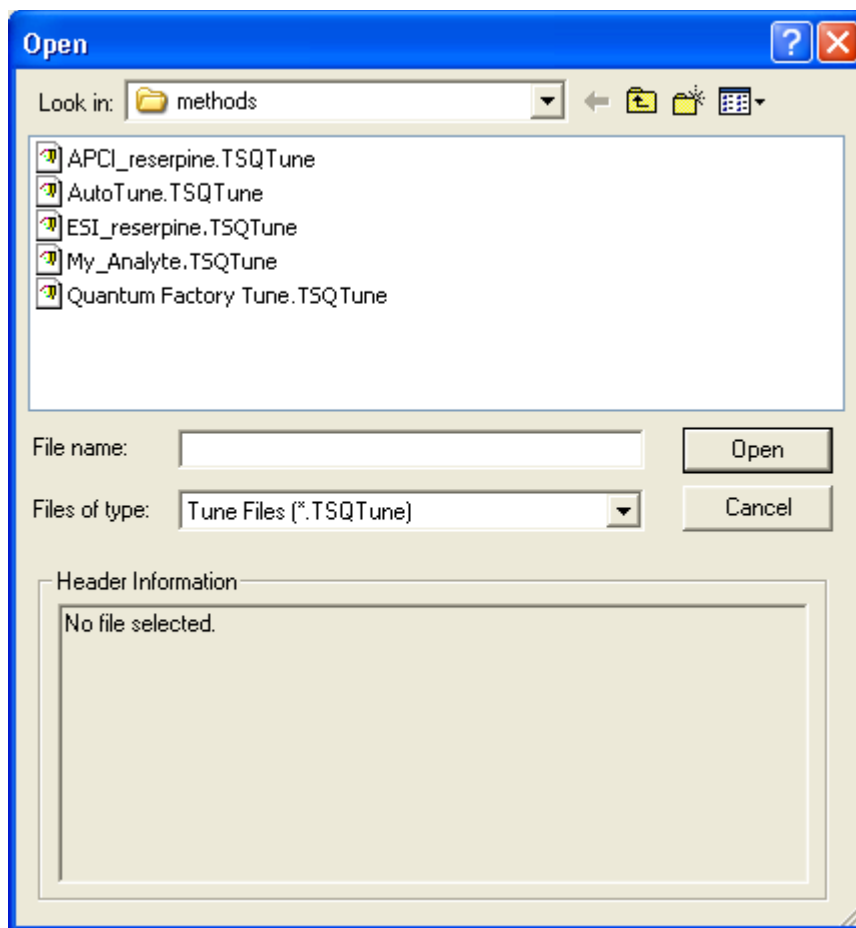

Figure 4-5. Open Tune Method dialog box
- a. On the File / Display toolbar, click on the Open File button to display the Open dialog box. See Figure 4-5.